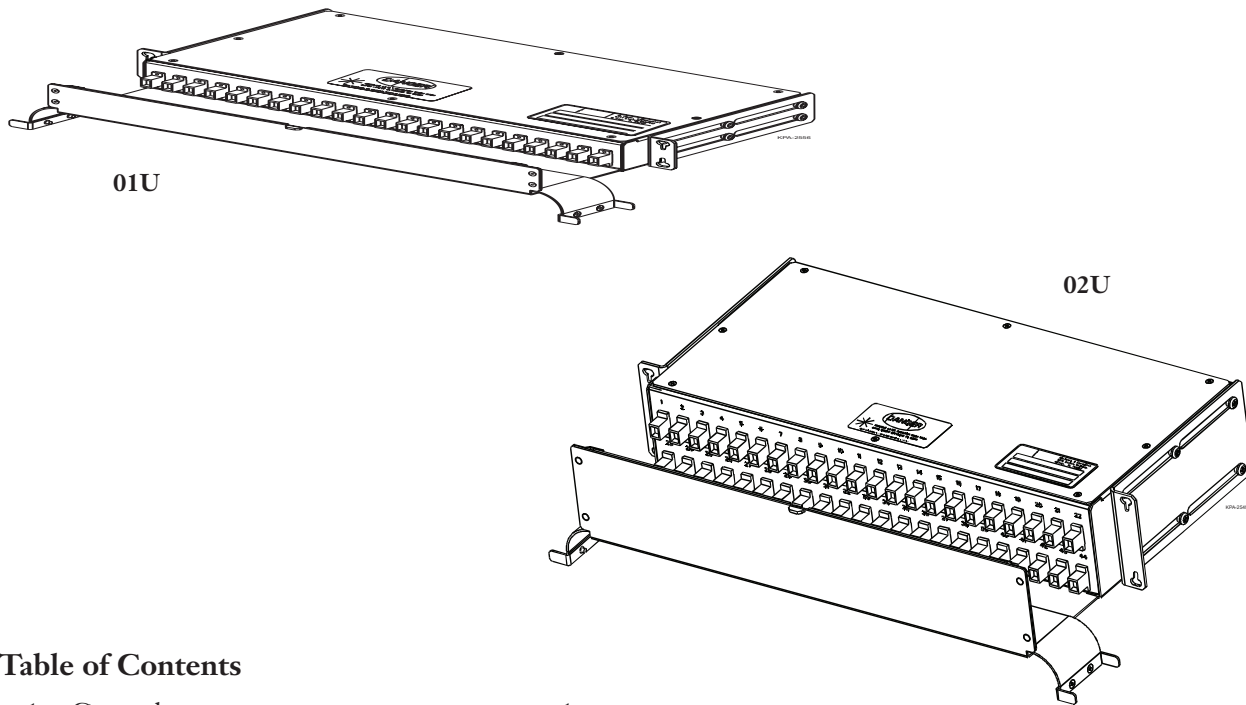

Figure 1
2.1 The ECS is a fiber optic unit designed to house couplers, splices, connectors, and fiber slack. The 01U unit has 22 input/output ports and will fit in one rack space on a standard utility rack. The 02U unit has 44 input/output ports and will fit in two rack spaces on a standard utility rack (Figure 1).